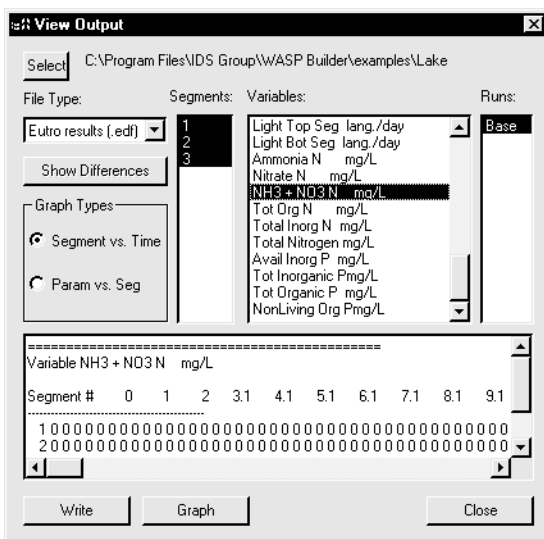

Figure 23: View Output Window.
1. Select **WASP > View Output**. The window shown in *Figure 23* will appear.